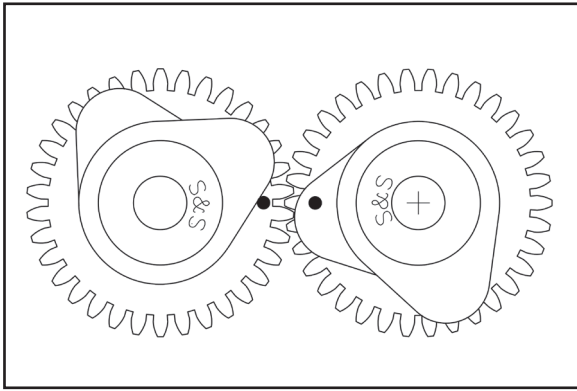

Figure 3
- E. Apply assembly lube to outer bearing surface of rear (longer) camshaft and inner race of rear bearing. Support bearing by inner race and with camshaft gear timing marks aligned (**See Figure 3**), press camshaft all the way into bearing.